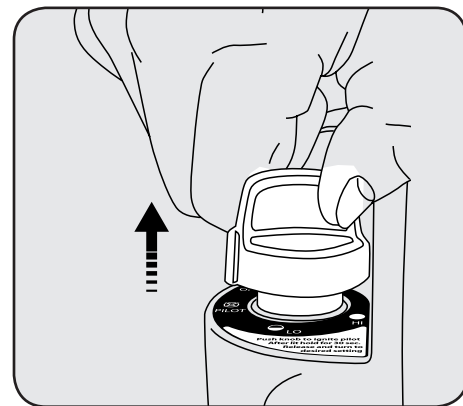

Figure 5
5. After lighting pilot, release knob. Knob should return to fully extended position. See Figure 5. (If needed, repeat these steps until pilot lights).
7. After left burner tile has turned bright orange, adjust heat output by turning control knob to desired position ("LO", "MD" or "HI"). Note: Both tiles turn orange only on HI setting. **(2) 1 LB. propane bottles are needed to use heater in (HI) position.**
8. After lighting pilot, release knob. Knob should return to fully extended position. See Figure 5. (If needed, repeat these steps until pilot lights).